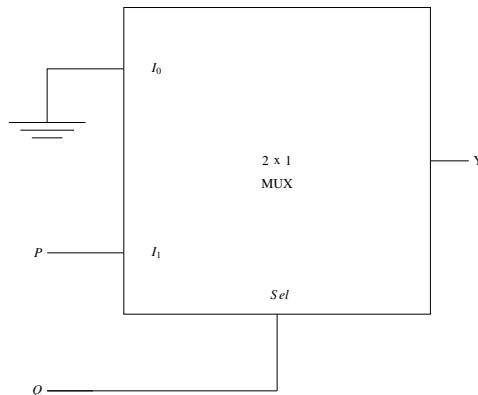

Fig. 3.23
41. In the circuit shown in Fig. 3.23, P and Q are the inputs. The logical function realized by the circuit is _____. (GATE EC 2023)